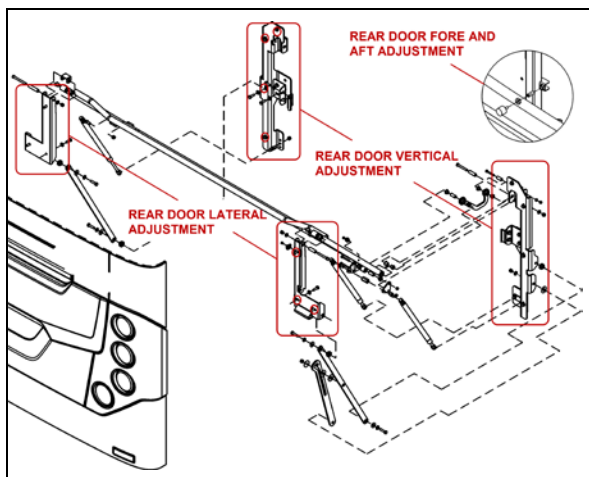

FIGURE 70: ENGINE COMPARTMENT DOOR 18633_1
1. To adjust the door VERTICAL position, loosen the bolts (4 on each side) holding the door supporting arm and gas springs bracket to the *vehicle structure* (Figure 70).
2. To adjust the door LATERAL position, loosen the bolts (3 on each side) holding the door supporting arm and gas springs bracket to the *door* (Figure 70).
3. Adjust the door FORE & AFT position by screwing/unscrewing the rubber door stops on each side of the door opening (Figure 70).